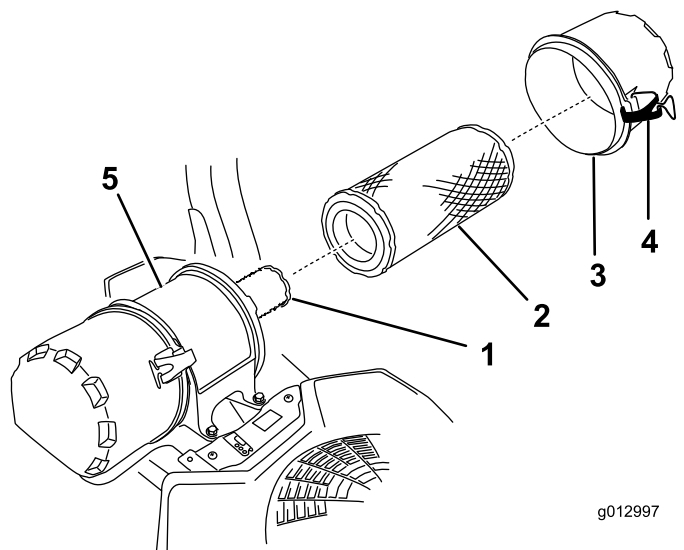

Figure 44
6. Release the latches on the air cleaner and pull the air-cleaner cover off the air-cleaner body (Figure 44).
8. Gently slide the primary filter out of the air-cleaner body (Figure 44).
2. If you are replacing the safety filter, carefully slide it into the filter body (Figure 44).
3. Carefully slide the primary filter over the safety filter (Figure 44).
4. Install the air-cleaner cover and secure the latches (Figure 44).